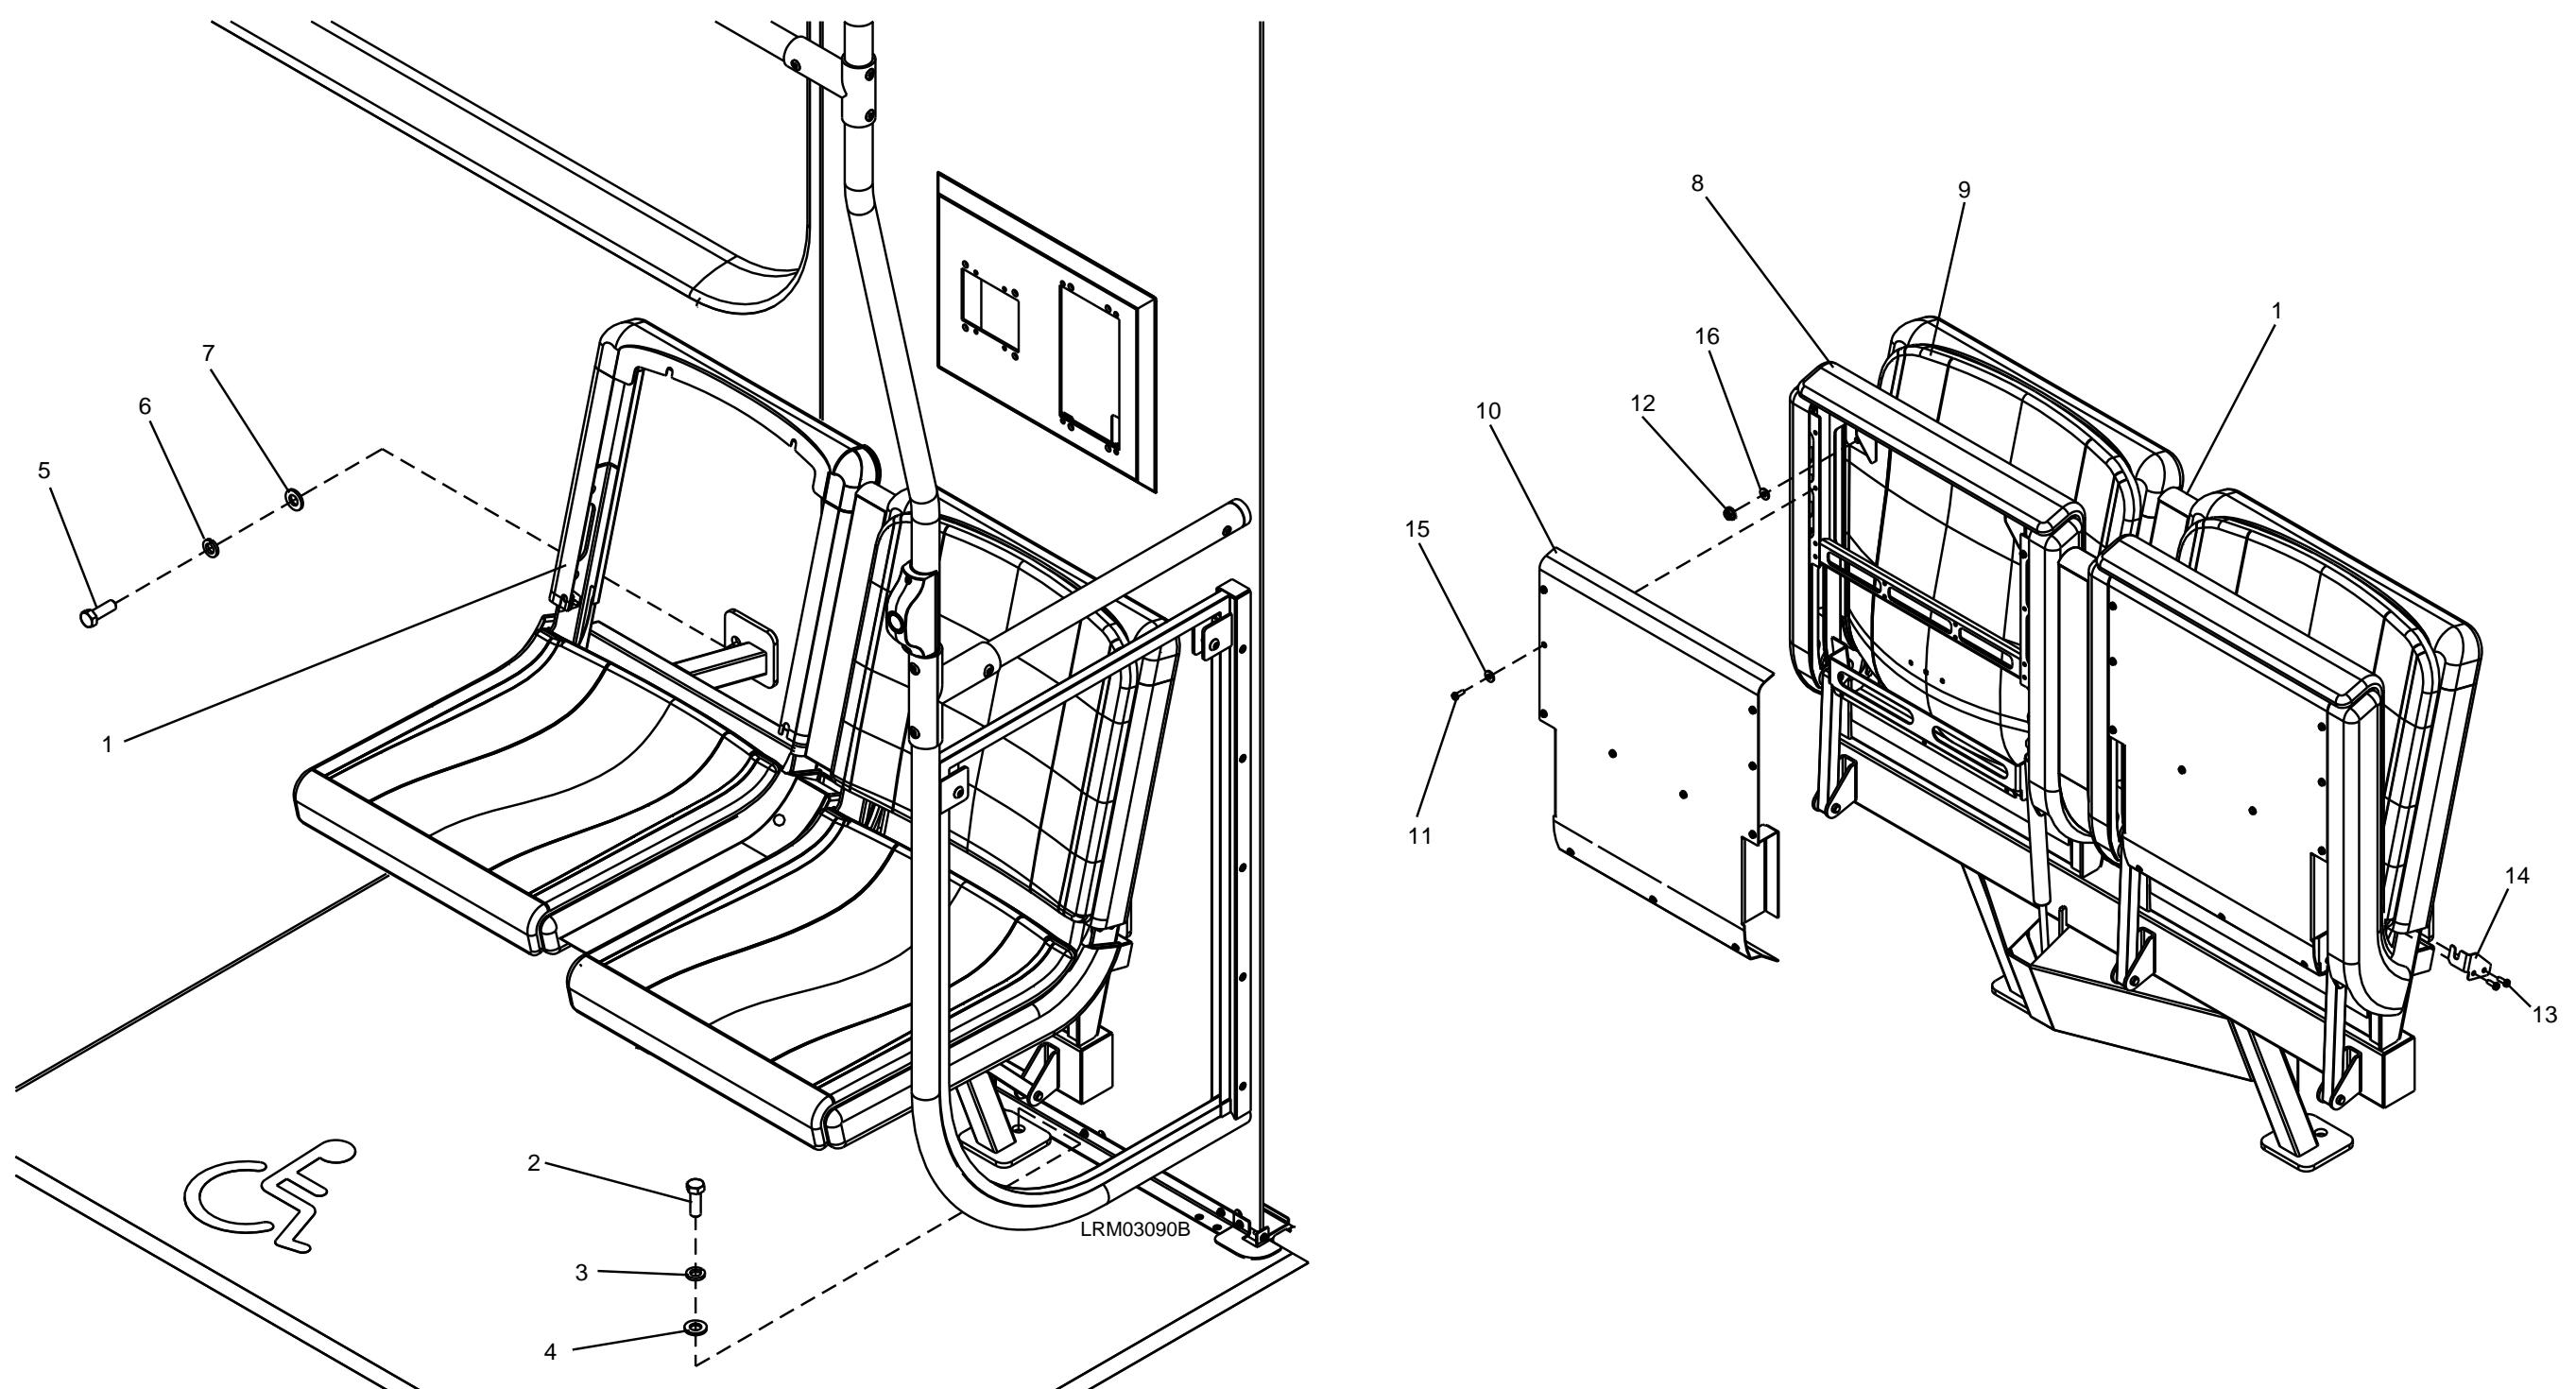

Figure 7-95: 2P Longitudinal Flip Seat
1. Remove the two M12 x 35 bolts (2), M12 lock washers (3), and M12 plain washers (4) that secure the seat assembly to the floor. See Figure 7-95.
2. Remove the two M12 x 35 bolts (5), M12 lock washers (6), and M12 plain washers (7) that secure the seat assembly to the wall.
3. Carefully remove the flip seat assembly (1).
1. With the seat bottom in the up position, remove the eleven #10-32 x 1/2" spanner head screws (11) and #10 plain washers (15) that attach the close out panel (10) to the seat assembly (1). See Figure 7-95.
2. Remove the close out panel (10).
3. Remove the two 1/4-20 lock nuts (12) and flat washer (16) that secure the cushion assembly (8) to the seat frame.
1. With the seat in the bottom position, remove the two #10-32 x 1/2" spanner head screws (13) securing the onsert keeper (14). See Figure 7-95.
2. Slide the onsert keeper (14) down and remove.
3. Pull straight downward on the seatback cushion assembly (9) to disengage the top clips from the seat frame.